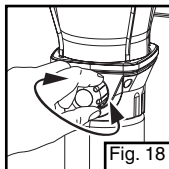

Fig. 18
■ Brightness may be adjusted with fuel valve. (Fig. 18)